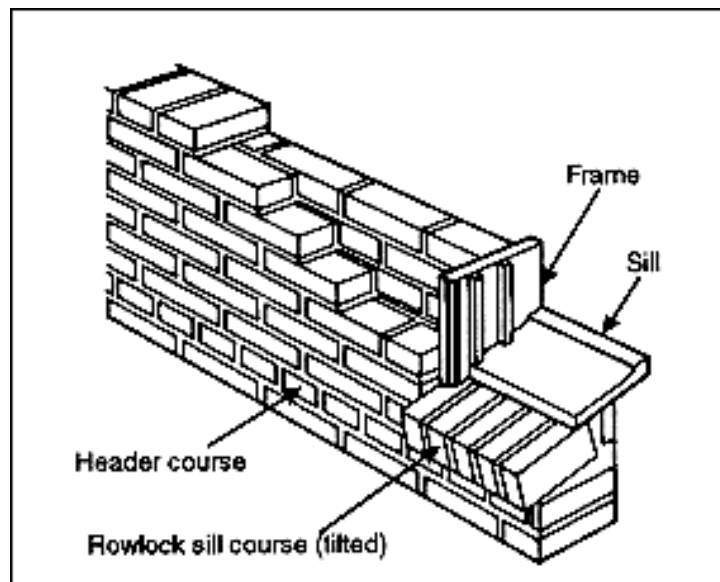

Figure 9-29. Constructing a window opening
- **Laying the rowlock sill course.** When the wall reaches sill height, lay the rowlock sill course as shown in Figure 9-29 below. Pitch the course downward away from the window. The rowlock normally takes up a vertical space equal to two courses of brick. Finish the exterior joint surfaces carefully to make them watertight.